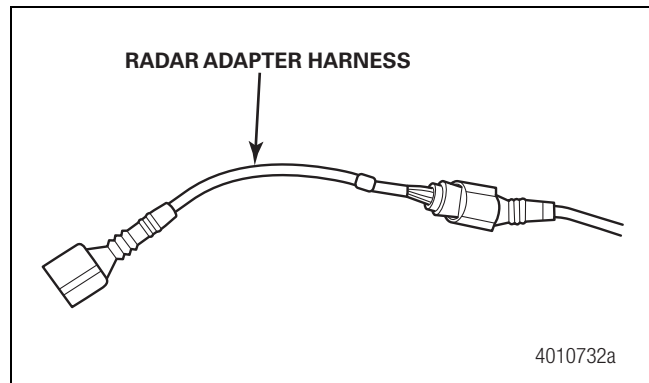

Figure 5
- Install the radar adapter harness to the vehicle OEM radar connector by pushing on the adapter end until it snaps into the connector. Slide the rubber boot over the connector. Figure 5.